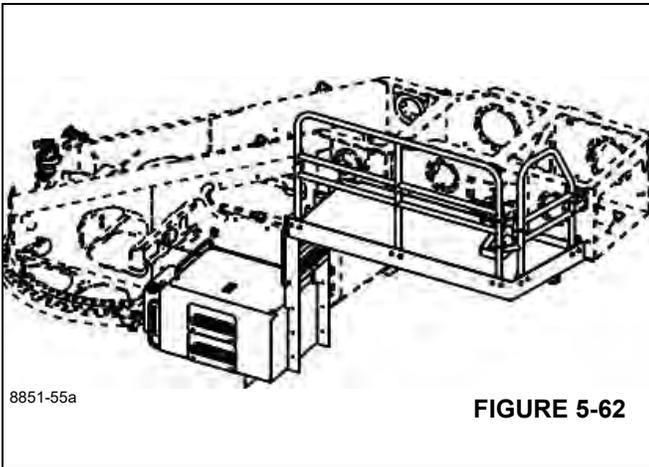

FIGURE 5-62
- Fold the handrail (1), (Figure 5-62) upwards until the pins (2), (Figure 5-62) latch into place.
- Open the locking pins (2), (Figure 5-62).
- Fold the handrail (1), (Figure 5-62) in until the pins (2), (Figure 5-62) latch into place.